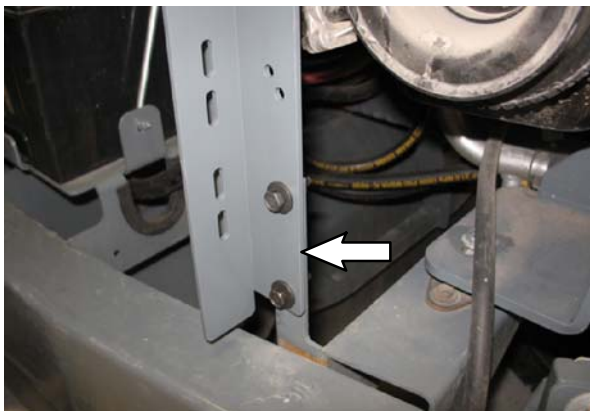
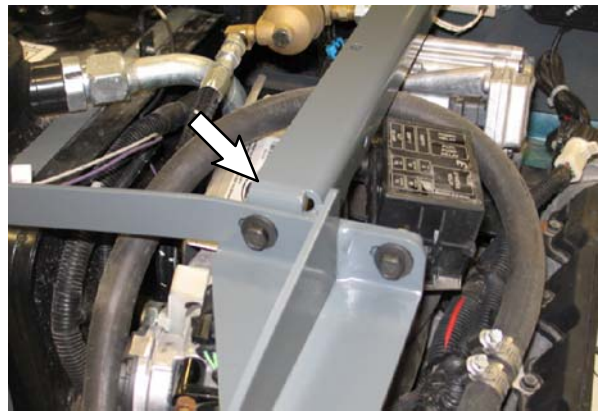
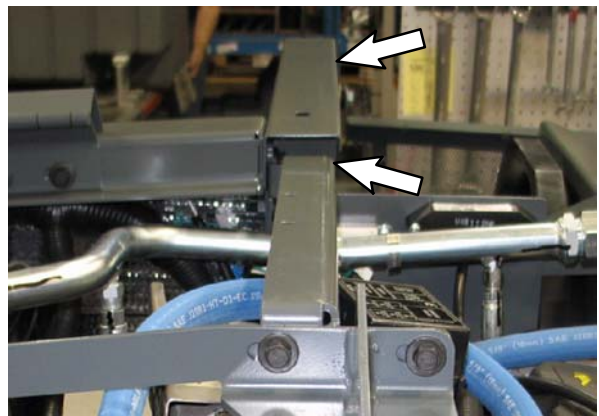
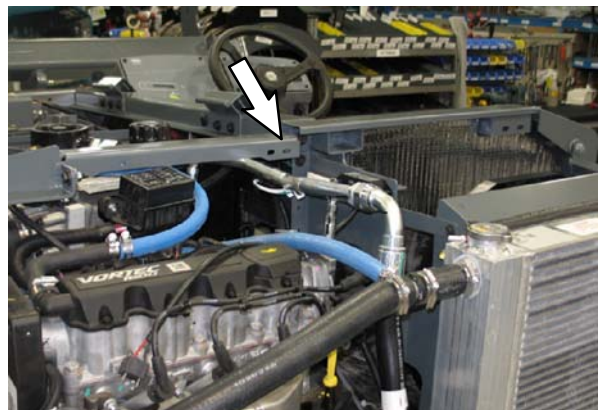

FIG. 38
FIG. 39
FIG. 40
FIG. 41
51. Use saved hardware to install the support brace (31) onto frame of machine. Do not completely tighten hardware. Hardware is tightened during later adjustment. (Fig. 38)
52. Use saved hardware to install the left rear cover support (29) onto the support brace (31). Do not completely tighten hardware. Hardware is tightened during later adjustment. Refer to Fig. 39.
53. Align the left rear cover support (29) with the hinge mounting bracket on the operator station. Refer to Fig. 40.
54. Tighten hardware installed in Step 45 through Step 49. (Fig. 36 / Fig. 37 / Fig. 38 / Fig. 39 / Fig. 40 / Fig. 41)